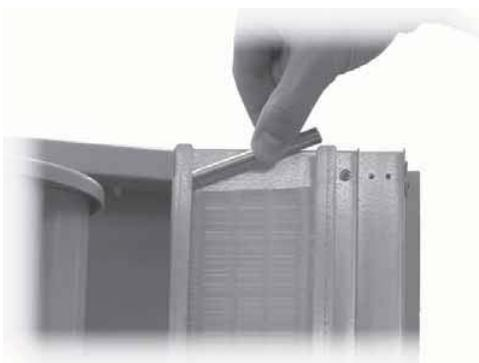

Fig. 55
- When loading is complete, reinsert the metal counterweight (fig.55).